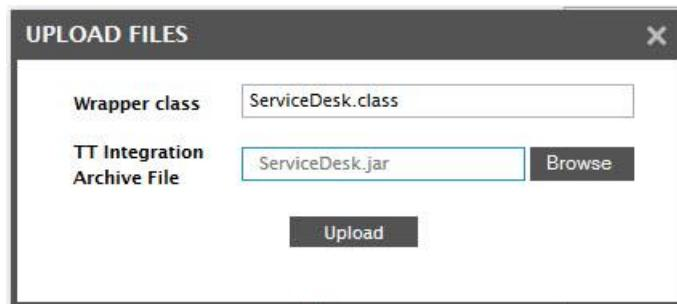

Figure 5.4: Uploading the TT integration jar file to the eG manager
10. The implementation of eG integration with ServiceNow exists in a Java class file named **ServiceNowIntegrator.java**. Additionally, the API files and library files that support this class file are jarred in **HttpClient.jar** file. In eG, this jar file is referred to as the **TT integration archive file**. By default, the implementation class file and the jar file are bundled with the eG manager and are available in the **<EG\_INSTALL\_DIR>\manager\lib** directory on the eG manager host. However, if later, changes are made to these files, you will have to re-upload them to the eG manager. In such a case, set the **Do you want to upload the supporting archives?** flag to **Yes**, and click the **Upload** button alongside. This will invoke Figure 5.4.
Here, specify the full path to the **Wrapper class** file – i.e., the **ServiceNowIntegrator.java** file - and the **TT Integration Archive File** – i.e., the **HttpClient.jar** file - to be uploaded. Use the **Browse** button for the path specification. Finally, click the **Upload** button in Figure 5.4.